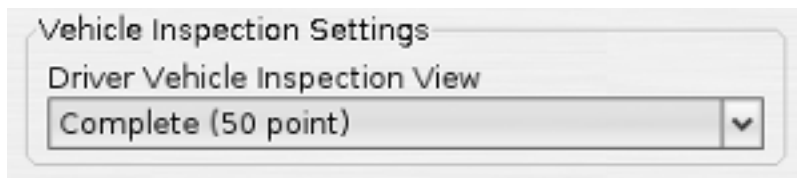

Figure 6.4. Vehicle Inspection Settings
2. In the "Driver Vehicle Settings" section pick the "Brief (12 point)" for the 12 point inspection or the "Complete (50 point)" item for the 50 point inspection screen, see Figure 6.4, "Vehicle Inspection Settings".